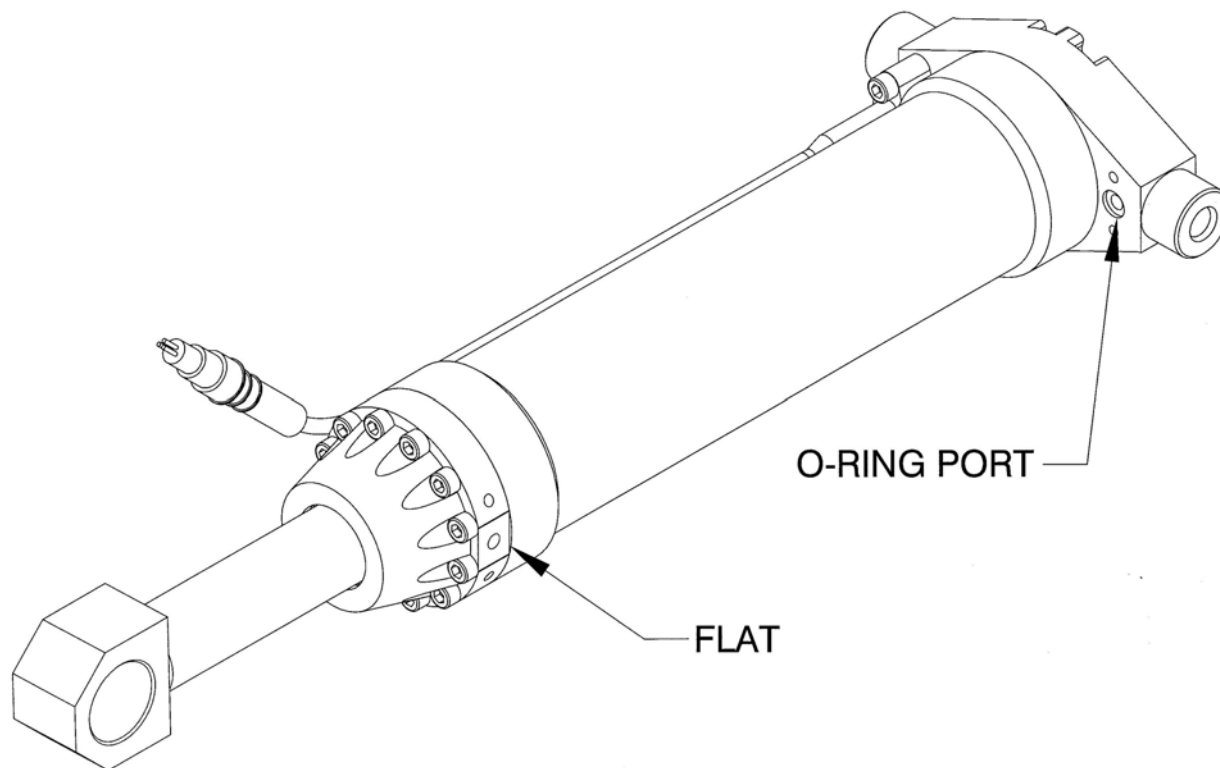

Figure 4-5 Cylinder head/cap orientation
12. Install electrical connector into port and secure with fasteners (11) and Loctite 242.
13. Coil excess wire in bottom of cavity and secure potentiometer assembly to cap using fasteners (22) and Loctite 242. Be careful not to pinch wires under pot ass'y.
14. Place O-ring (9) and backup ring (8) in groove of cap. Make certain backup is on correct side of O-ring and oriented with the cup towards the O-ring.
15. Install potentiometer wiper (18) in piston. Make certain that wiper is installed with contacts pointing forward toward the rod end of the cylinder.
16. Lightly grease chamfer on open end of cylinder barrel. Carefully assemble cylinder assembly and rear cap element assembly by inserting potentiometer element through wiper in piston and up into hollow piston rod. Orient the O-ring port in cap to the O-ring port on the head as shown in Figure 4-5 and secure using fasteners (26) and Loctite 242. Torque to 23 inch lbs. Remove excess Loctite. Check that cylinder extends/retracts smoothly.
17. Apply silicone grease to O-rings (10),(24). Install O-ring (24) in counterbore of cap and install O-ring (10) in counterbore of tube ass'y (12). Install tube ass'y on cylinder ass'y and secure with fasteners (12) at head end and fasteners (26) at cap end with Loctite 242. Remove excess Loctite.